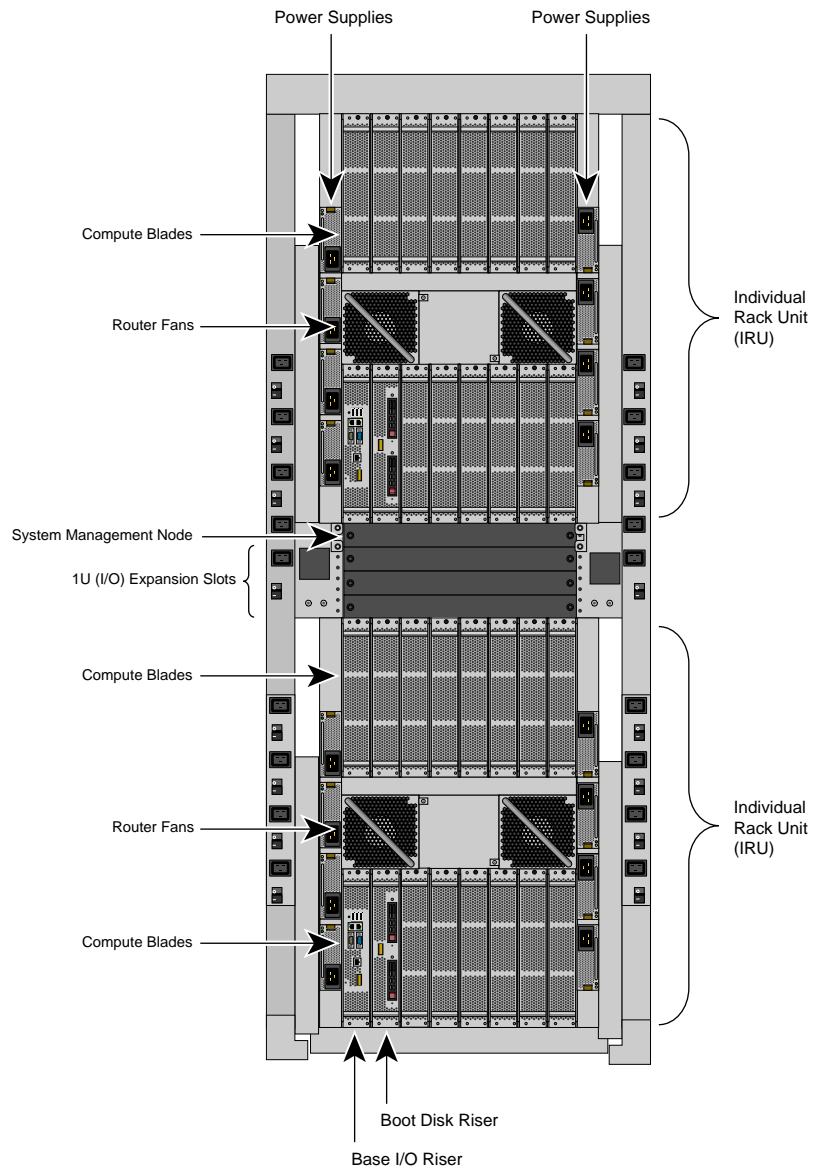
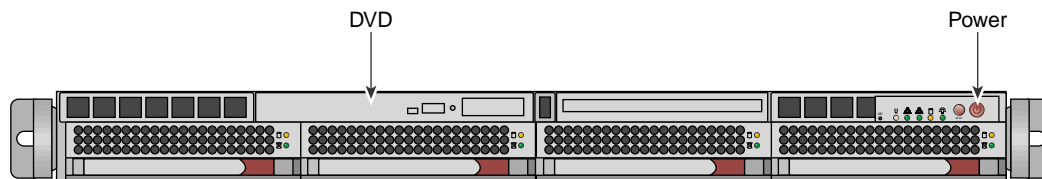

Figure 1-7 SGI Altix UV 1000 System Rack
Figure 1-8 System Management Node Power On Button and DVD Drive
The system management node (SMN) is either located in the top 1U slot between the individual rack units (IRUs) or at the top of the rack as shown in Figure 1-7 on page 14. Figure 1-8 on page 15 shows an image of an SMN.
1. Turn on, reset, or reboot the SMN. The power on button is on the right of the SMN, as shown in Figure 1-8 on page 15.
2. Insert the SLES 11 Service Pack 1 DVD in the DVD drive on the left of the SMN as shown in Figure 1-8 on page 15.